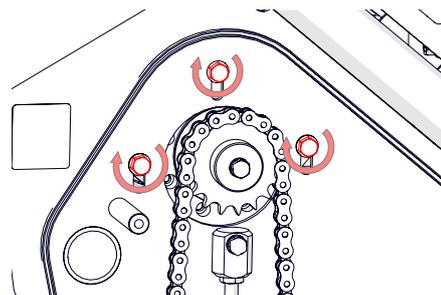

Fig. 15J - Tighten the motor 3 x top nuts.
10. Tighten the 3 x top nuts [2 x 13 mm spanner] supporting the motor (Fig. 15J).